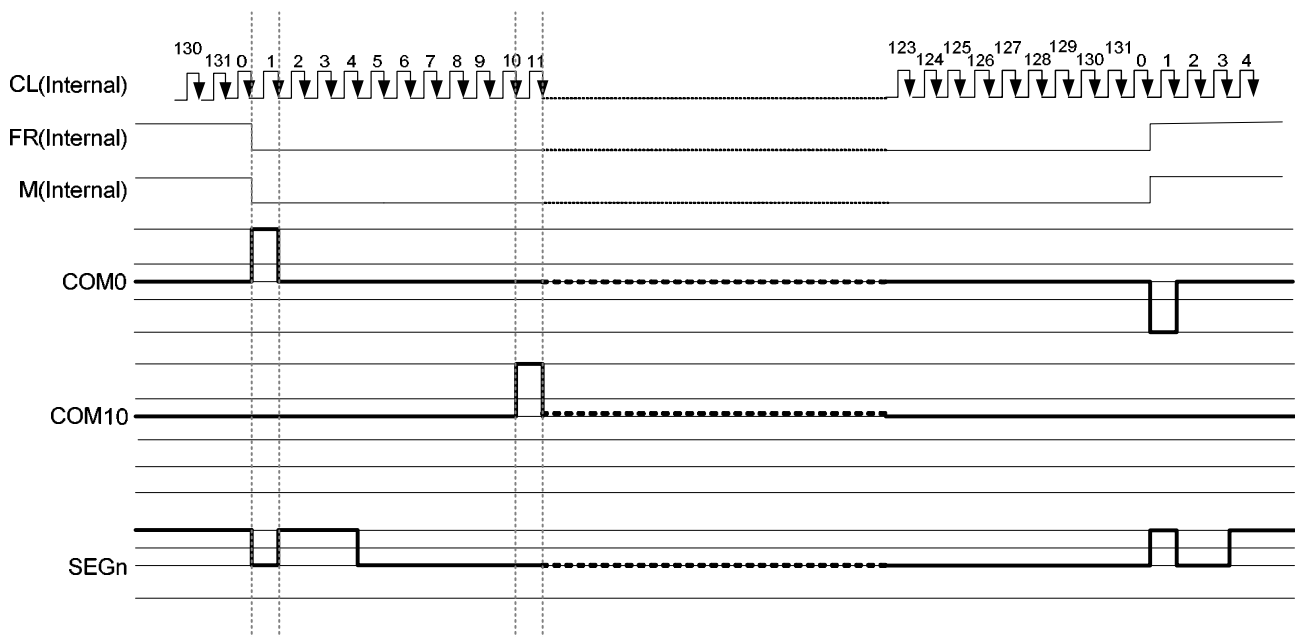

Figure 7.7-1 2-frame AC Driving Waveform (Duty Ratio: 1/132)
This circuit generates some signals to be used for displaying LCD. The display clock CL (internal), which is generated by oscillation clock, generates the clock for the line counter and the signal for the display data latch. The line address of on-chip RAM is generated in synchronization with the display clock and the display data latch circuit latches the 132-bits display data in synchronization with the display clock. The display data, which is read to the LCD driver, is completely independent of the access to the display data RAM from the microprocessor. The display clock generates an LCD AC signal (M), which enables the LCD driver to make an AC drive waveform, and also generates an internal common timing signal and start signal to the common driver. The frame signal or the line signal changes the M by setting internal instruction. Driving waveform and internal timing signal are shown in Figure 7.7-1.